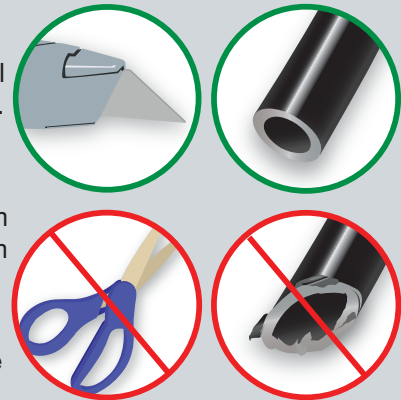

fig. 8
When cutting air lines, use a sharp knife or a hose cutter and make clean, square cuts (Fig. 8). Do not use scissors or wire cutters because these tools will deform the air line, causing it to leak around fittings. Do not cut the lines at an angle.
1. If there is a problem with the push-to-connect fitting, remove the air line as described above. Trim 25mm (1") off the end of the air line. Be sure the cut is clean and square (see Fig. 8).